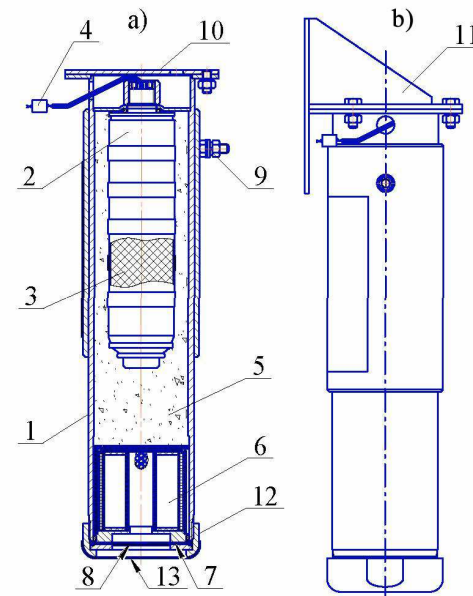

Figure 1
4.1.1 GGFE (see Figure 1) consists of a case **1** where gas-generating element **2** with gas-generating compound **3** and electrical-triggering element **4** is placed. Free space of GGFE case **1** is filled with cooling tablets **5**. Filter-separator **6** is set for gaseous firefighting substance cleaning from mechanical impurities. Filter-separator outlet hole is blocked with safety membrane **7**, aperture of which is plugged with self-adhesive film PVC **8**. Generator has a grounding clamp **9**. GGFE is supplied with bracket **10** for ceiling mounting (see Figure **1a**) or bracket **11** for wall mounting (see Figure **1b**). To avoid membrane **7** and PVC **8** rupture during transportation, storage and installation the aperture of screw nut **12** is plugged with self-adhesive film **13** which is removed after device installation in the object.